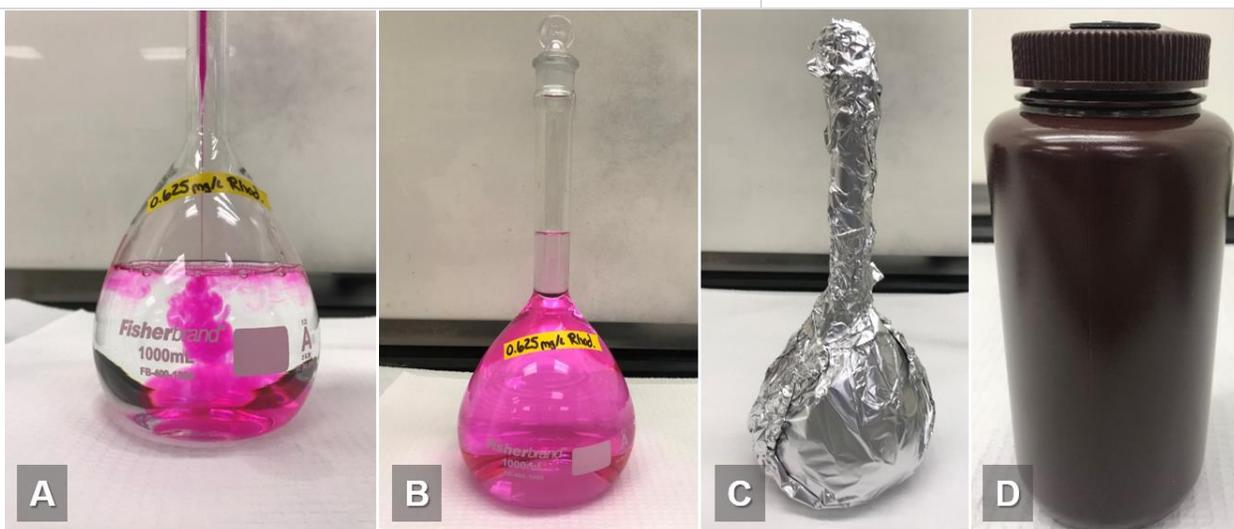

Figure 87. Prepare Total Algae/Chlorophyll Calibration Solution with Rhodamine WT and DI Water
**STEP 3** | A and B of Figure 87 displays the creation of a 0.625 mg/L Rhodamine WT with DI water from CVAL provided stock solution. The solution is light sensitive. Protect it from light by either covering it in foil or by using an amber HDPE container (C and D in Figure 87), when storing or transporting the solution to site.